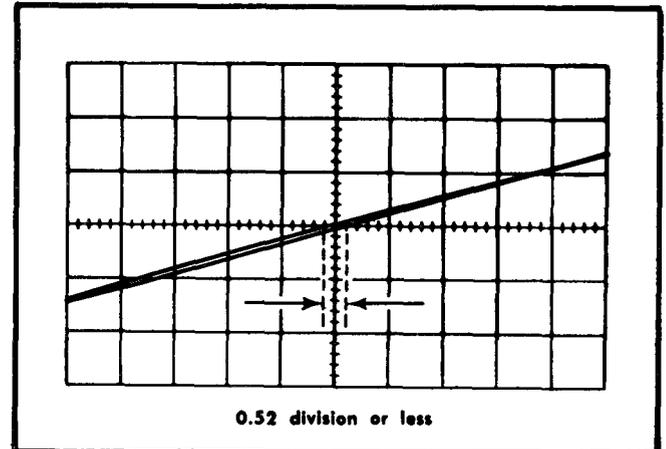

Fig. 6-52. Typical CRT display when checking X-Y phasing.
- e. CHECK-CRT display for an opening at the center horizontal line of 0.52 division or less ( $3^\circ$  or less phase shift; see Fig. 6-52).